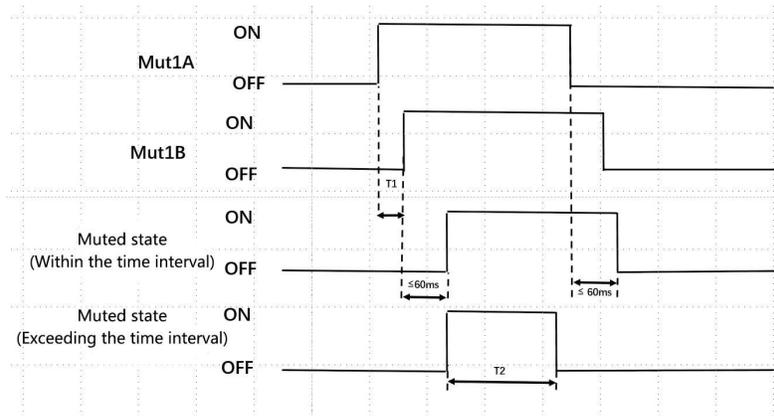

Figure 3-18 Muting Sequence
- b) Within a preset time interval, two independent hard-wired muting input signals switch to the ON state in a predefined sequence. However, the switching interval between the two inputs must not be 0 (see Figure 3-18).
- b) The predefined (preset) maximum muting time T1 is exceeded (1 minute or more) (see Figure 3-18).
Figure 3-18 shows the muting sequence.